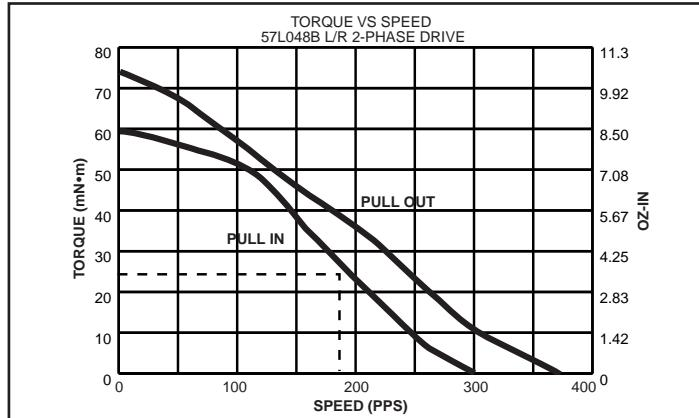

Figure 6: Torque/Speed — Frictional Load.
2. Referring to Fig. 6, the maximum PULL IN error rate with a torque of  $25 \text{ mN} \cdot \text{m}$  is 185 steps/sec. (It is assumed no acceleration control is provided.)